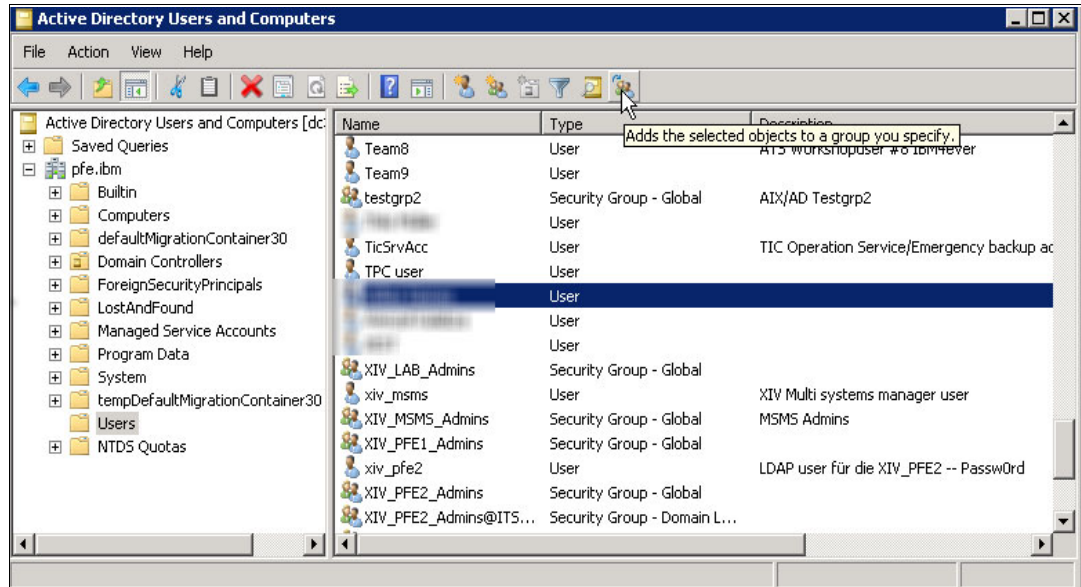

Figure 7-17 Adding the selected objects to a group you specify
3. Highlight the users that you want to add to the FlashSystem 900 storage administrator group and click the **Adds the selected objects to a group you specify** icon (see Figure 7-17).